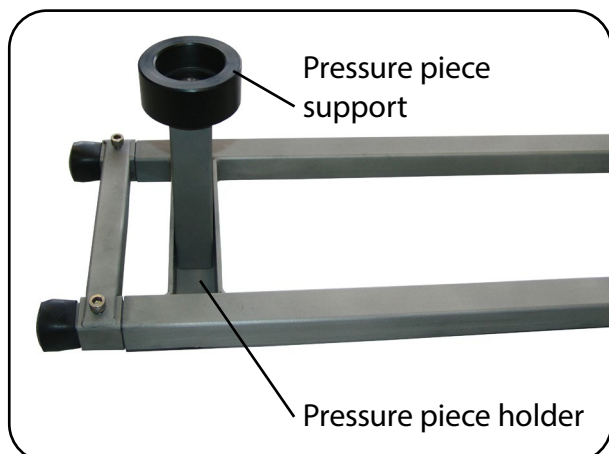

Fig. 6.4.01 – Positioning the raised tub support
- Position the raised tub support with the black pressure piece support pointing upwards in the U-shaped opening in the pressure piece holder (Fig. 6.4.01).